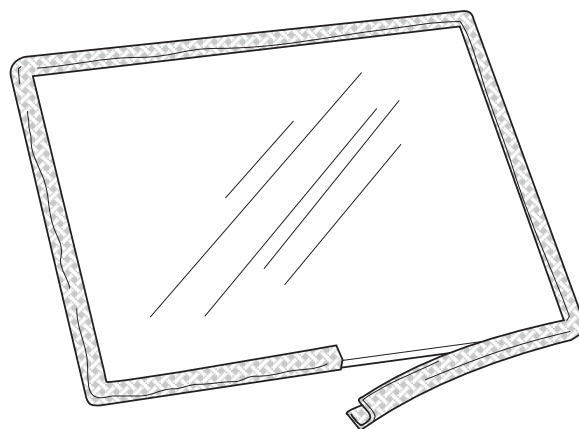

Figure 36. Gasket Replacement
1. Wrap the new gasket material evenly around the edge of the glass, peeling back the protective strip to expose the adhesive as you go. Press the adhesive side down onto the glass surface. Do not stretch the gasket. See fig. 36.